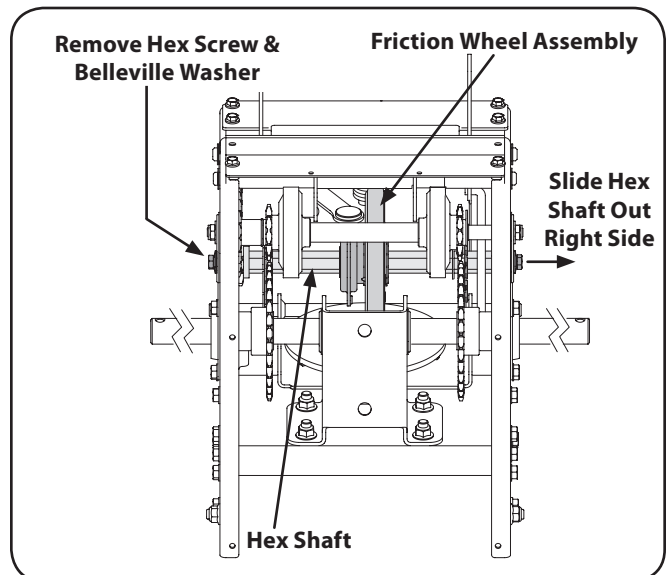

Figure 8-10
4. Using a 3/4” wrench, hold the hex shaft and remove the hex screw and belleville washer and bearing from left side of the frame. Refer to Fig. 8-10.